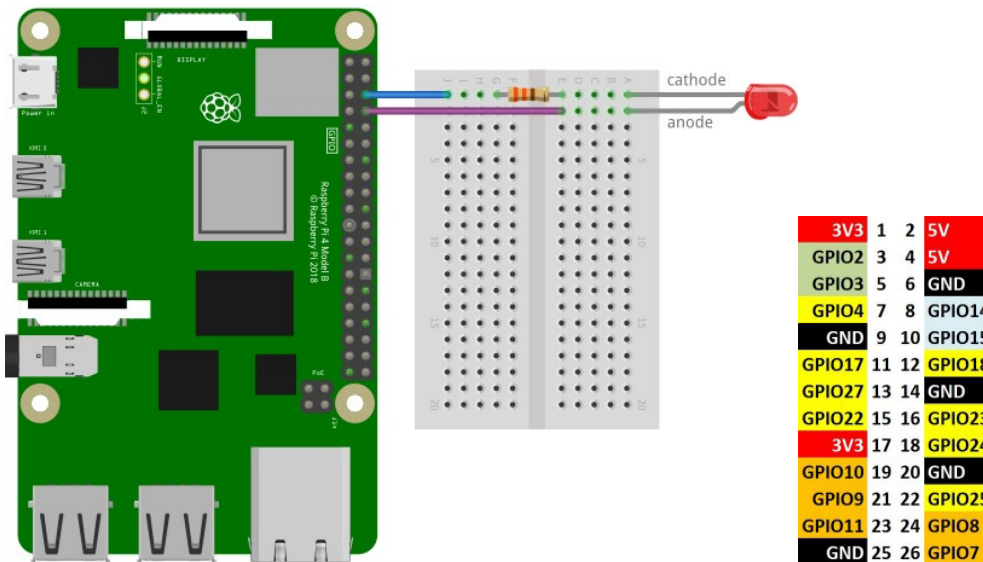

Figure 5: Setting up the circuit for the LED blinking program.
- 1) The first step of this lab task is to set up the circuit as shown in Fig. 5.